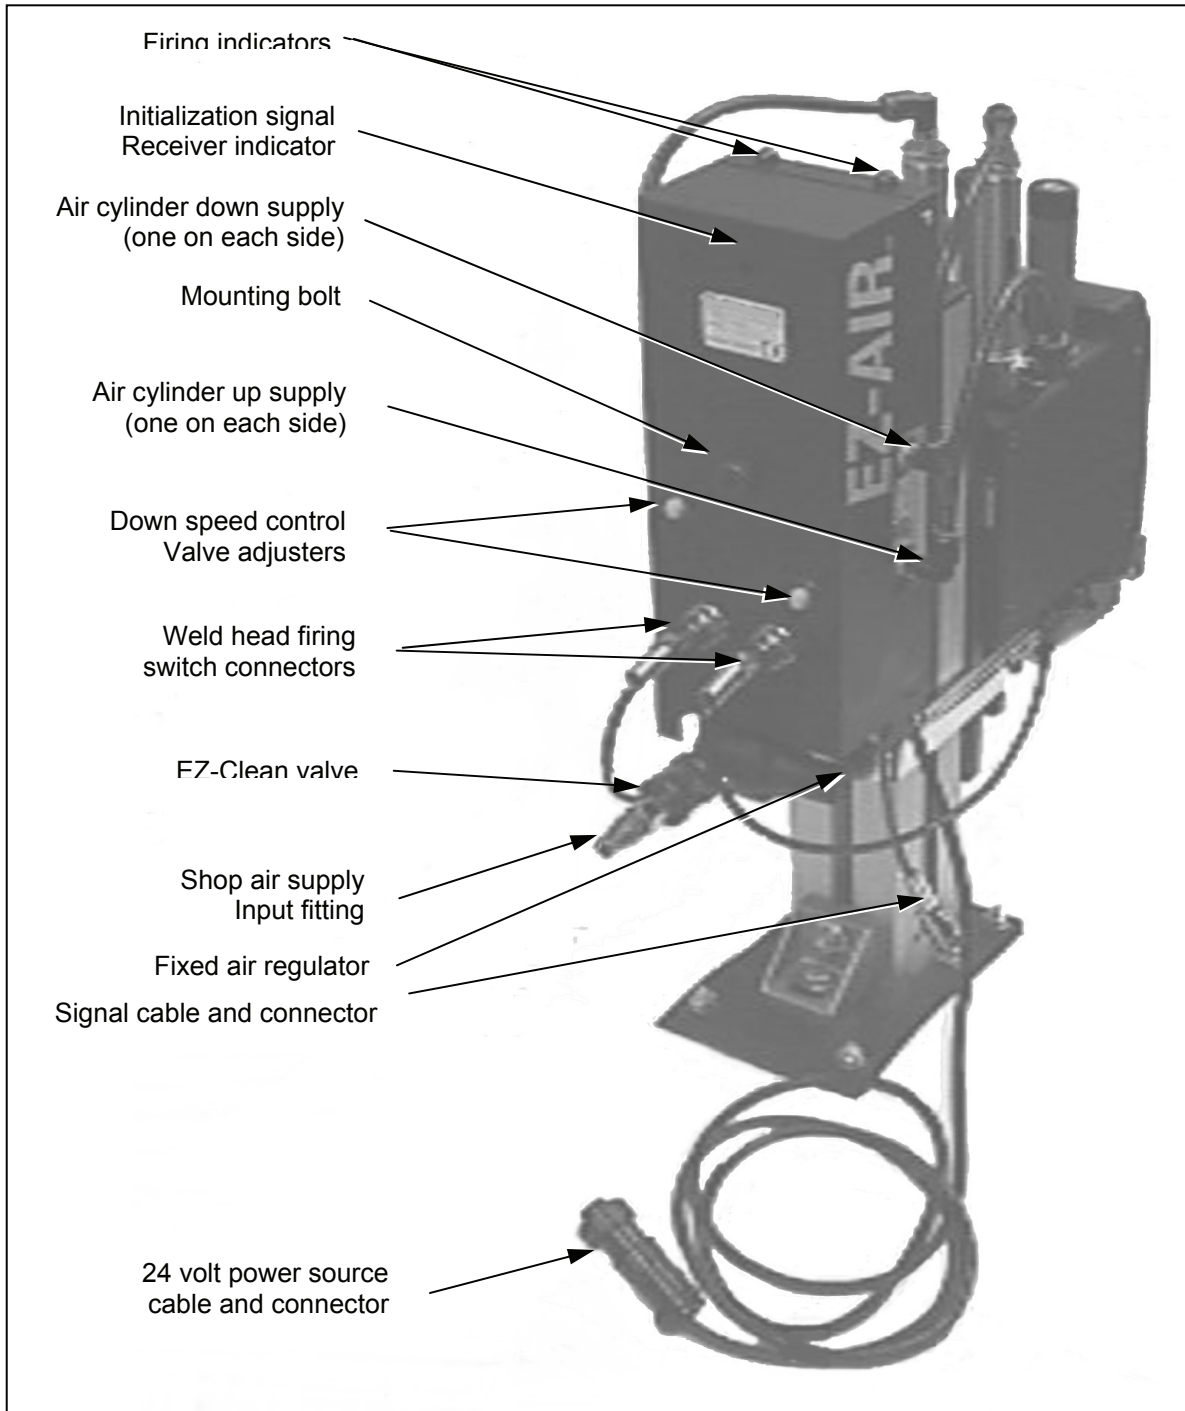
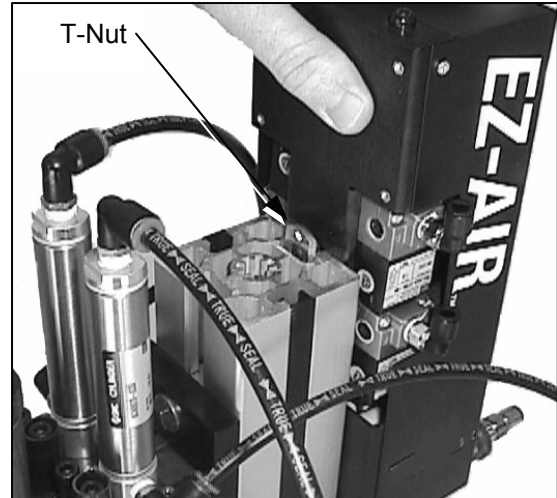

Figure 1-1. Dual *EZ-AIR* Components
Figure 2-2. Installing EZ-Air
Figure 1-1 shows the major components of the unit. Normally, these will be the only components associated with installation and operation. The function of each item is described below.
- 3 Loosen the mounting bolt (figure 1-1) on the EZ-Air with the 5mm hex wrench included in the shipping kit so that the T-nut will slide into the vertical support slot (Figure 2-2). Adjust the EZ-Air so that its top is approximately at the same height as the air cylinder and, making sure that the guide on the lower end of the EZ-Air is in the vertical support slot, tighten the mounting screw.
Verify that the (red) EZ-Clean valve (figure 1-1) is slid fully toward the EZ-Air (non-purge position).